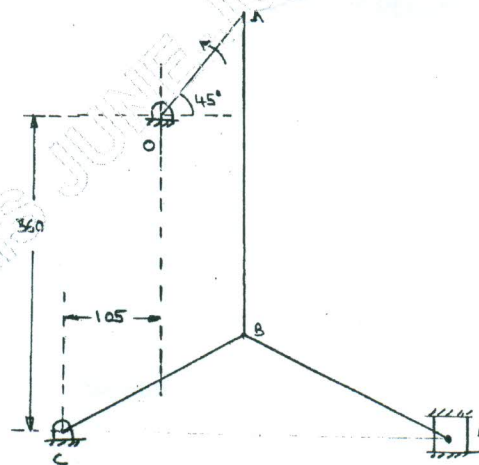

Fig. Q4
- 4 In the toggle mechanism shown in Fig. Q4, the slider D is constrained to move in a horizontal path. The crank OA is rotating in CCW direction at a speed of 180 rpm. The dimensions of the various links are as follows: $OA=180$ mm, $CB=240$ mm, $AB=360$ mm, $BD=540$ mm. Find:(i) Velocity of slider. (ii) Angular velocity of links AB , CB , BD using instantaneous centre method. (20 Marks)